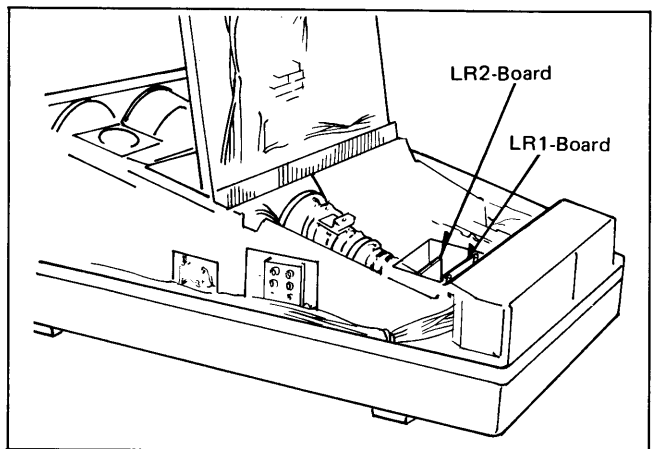

Fig. 15
- 6) Remove the LR1/LR2-Board as shown in Fig. 15.